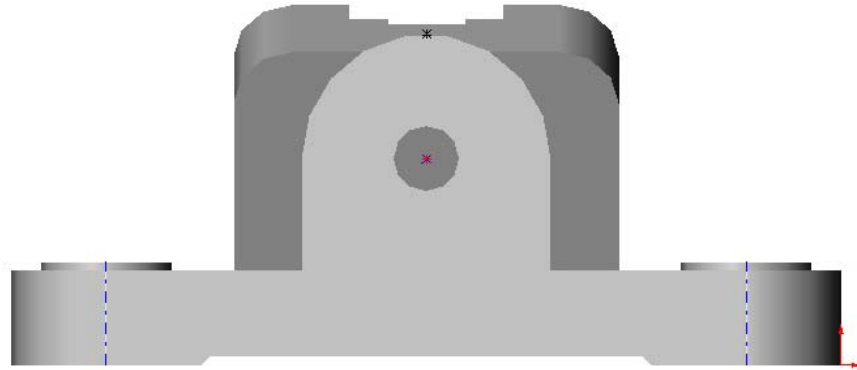

Figure 30 Sketch Point for Creating On Surface Plane
33. Select the hole axis and the point as shown in Figure 30. Select **Vertical** .